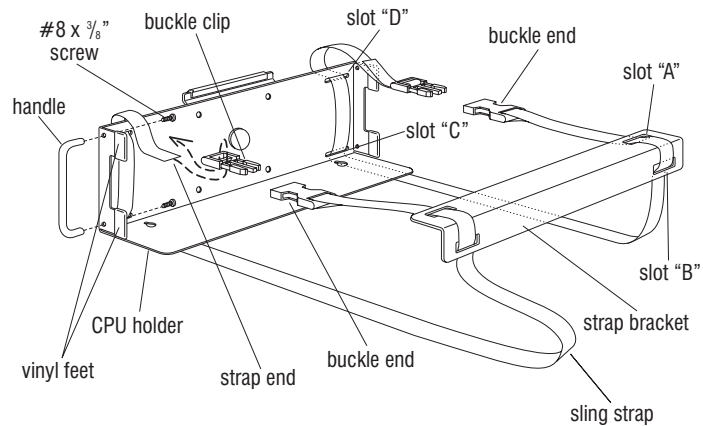

Figure 1
1. Lay the CPU holder and strap bracket out as illustrated in Figure 1. First route the "end" of the sling strap through slot "A" and slot "B" in the strap bracket, and pull buckle end to within a few inches of slot "A". Next route the strap end through slots "C" and "D" in the CPU holder as shown. Finally, following the arrow, route the strap end through the buckle clip. Follow the above procedure for the other sling strap (Figure 1).
2. Secure the handle to the CPU holder with two #8 x $\frac{3}{8}$ " screws at the two holes located above the vinyl feet (Figure 1).